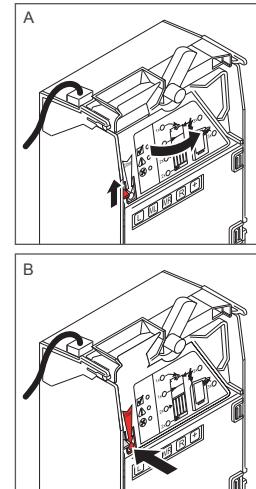

Fig. 5: Opening/closing flight deck
- 2 Press the locking lever upwards and open the coin validator (Fig. 5, A).
- 6 Press Close arrow so that the metal spring engages behind the locking lever in order to close the coin validator again (Fig. 5, B).